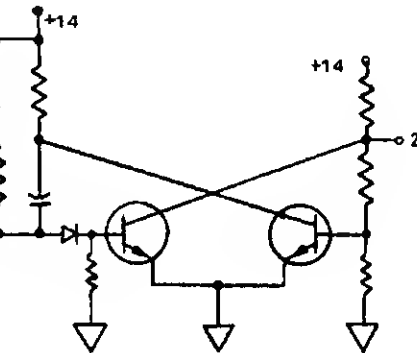

Figure 4.1. Dana Logic Symbols
4.4. The last two figures in this section are functional intraconnection diagrams of the signal conditioning section (Figure 4.10) and the digitizing and display section (Figure 4.11). Each of the diagrams can be unfolded allowing the diagram to be referenced while reading the circuit descriptions throughout the section. The diagrams are intended to supplement the complete schematics included in Section 6. Dana logic symbols are defined in Figure 4.1